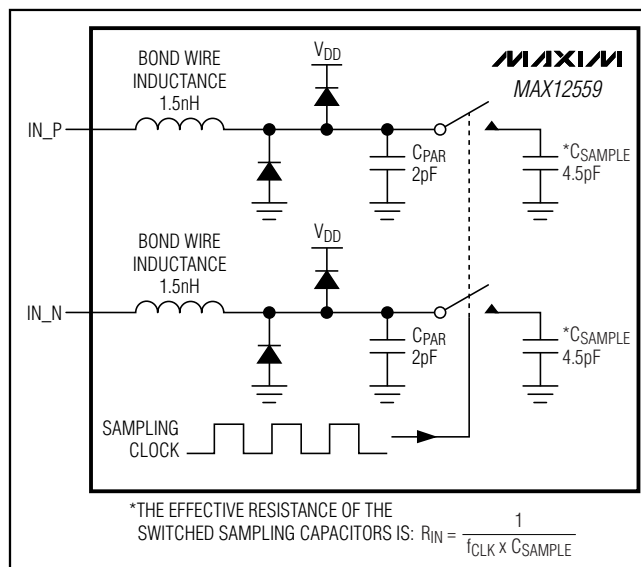
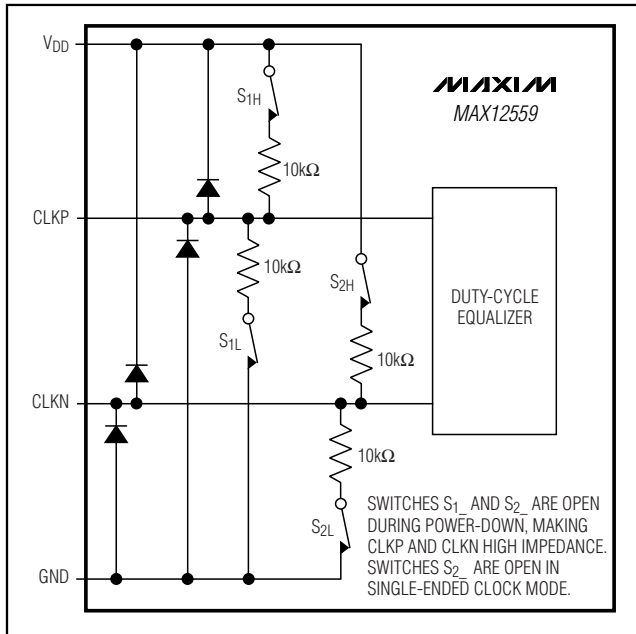

Figure 3. Internal T/H Circuit
Figure 4. Simplified Clock Input Circuit
Figure 3 displays a simplified functional diagram of the input T/H circuit. This input T/H circuit allows for high analog input frequencies (high IF) of 175MHz and beyond and supports a $V_{DD} / 2$ common-mode input voltage.
The MAX12559 sampling clock controls the switched-capacitor input T/H architecture (Figure 3) allowing the analog input signals to be stored as charge on the sampling capacitors. These switches are closed (track mode) when the sampling clock is high and open (hold mode) when the sampling clock is low (Figure 4). The analog input signal source must be able to provide the dynamic currents necessary to charge and discharge the sampling capacitors. To avoid signal degradation, these capacitors must be charged to one-half LSB accuracy within one-half of a clock cycle. The analog input of the MAX12559 supports differential or single-ended input drive. For optimum performance with differential inputs, balance the input impedance of IN_P and IN_N and set the common-mode voltage to mid-supply ($V_{DD} / 2$). The MAX12559 provides the optimum common-mode voltage of $V_{DD} / 2$ through the COM output when operating in internal reference mode and buffered external reference mode. This COM output voltage can be used to bias the input network as shown in Figures 9, 10, and 11.
The MAX12559 accepts both differential and single-ended clock inputs with a wide 25% to 75% input clock duty cycle. For single-ended clock input operation, connect DIFFCLK/SECLK and CLKN to GND. Apply an external single-ended clock signal to CLKP. To reduce clock jitter, the external single-ended clock must have sharp falling edges. For differential clock input operation, connect DIFFCLK/SECLK to O_{VDD} . Apply an external differential clock signal to CLKP and CLKN. Consider the clock input as an analog input and route it away from any other analog inputs and digital signal lines. CLKP and CLKN enter high impedance when the MAX12559 is powered down (Figure 4).
- 1) INAP/B, INAN/B analog inputs are disconnected from the internal input amplifier (Figure 3).